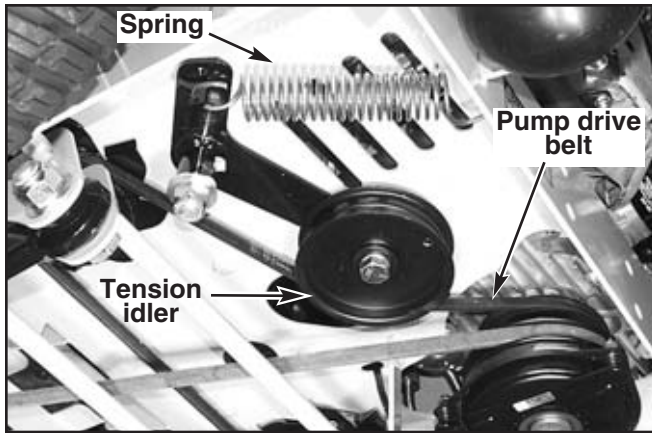

Figure 5-12
The pump drive belt tension remains constant by means of a tension idler and spring (Fig. 5-12). There is no tension adjustment of this belt. **NOTE: Replace the belt every 400 hours or every two (2) years whichever comes first.**